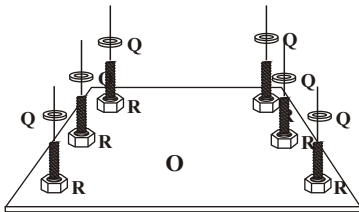

FIGURE 1A
- Slide a 18mm Thick Washer (Q) over each of the J-Bolts(N) as shown in FIGURE 1A.